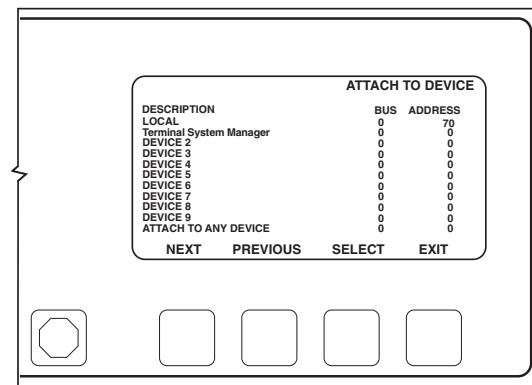

Fig. 11 — Remote Enhanced Display Attach To Device Screen
9. When the ATTACH TO NETWORK DEVICE screen appears, the display will show a list that allows up to 10 controller addresses to be entered, with the first address being LOCAL. (See Fig. 11.) If the remote enhanced display is connected to a single unit select LOCAL. This will allow the remote enhanced display to reconnect to the unit after a power interruption. Press **SELECT** and the BUS entry will be highlighted. Use the **INCREASE** or **DECREASE** softkey to select the appropriate bus number. Once the correct bus has been chosen press **ENTER**. Next, the ADDRESS will become highlighted. Using the same procedure that was used for choosing the correct BUS, select the proper address. Press **EXIT** when finished.